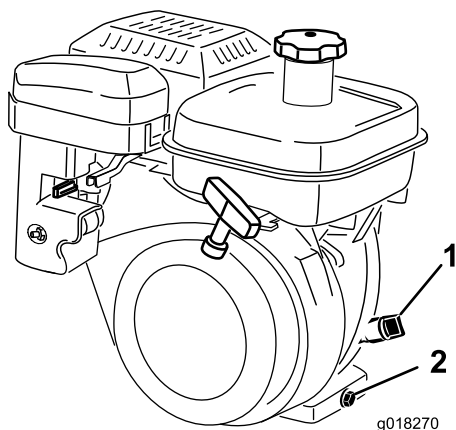

Figure 34
- Position the machine so that the engine is level, and clean the area around the oil-level gauge (Figure 34).
- Remove the oil-level dipstick by rotating it counterclockwise (Figure 34).
- At the rear of the machine, place a drain pan under the drain plug (Figure 34). Loosen the drain plug.